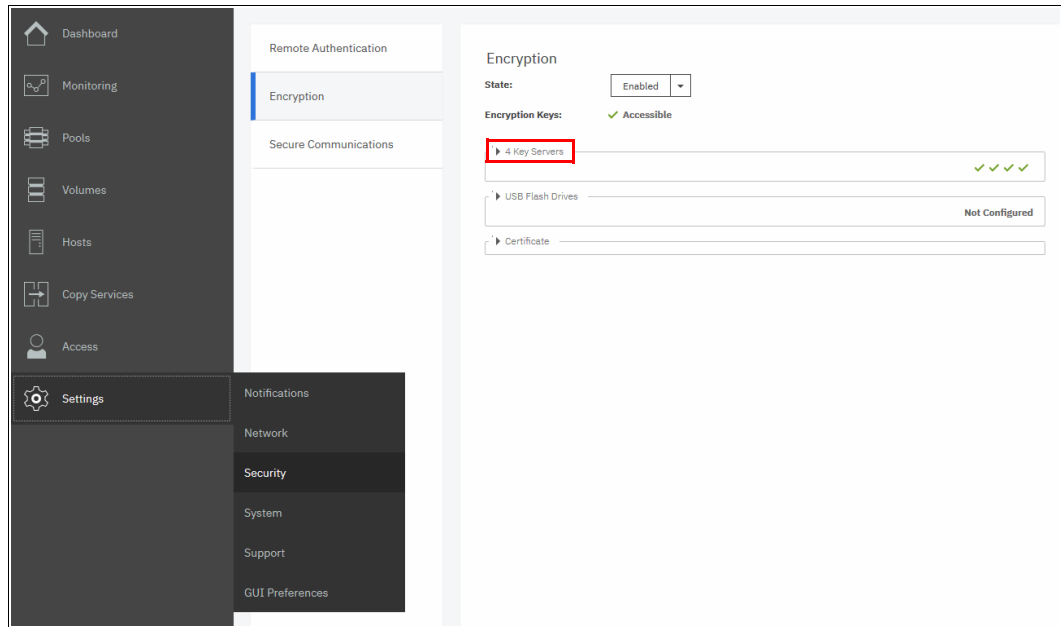

Figure 13-82 Locate Key Servers section on Encryption window
1. Click **Settings** → **Security** → **Encryption**, ensure that Encryption Keys shows that all configured SKLM servers are reported as Accessible, as shown in Figure 13-82. Click **Key Servers** to expand the section.